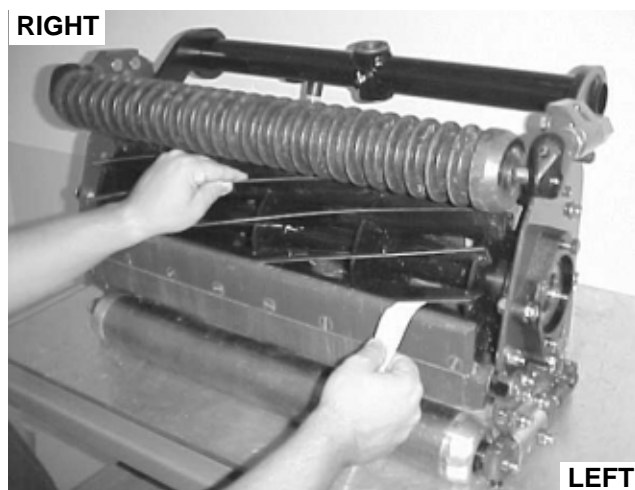

Figure 10
1. Rotate cutting unit backwards to gain access to reel and bedknife (Fig. 10).
3. Insert a 1" wide news piece of newspaper perpendicular to the bedknife, and then rotate the reel slowly in the moving direction to see if the reel cuts the paper - do this on both ends of the bedknife (Fig. 10).